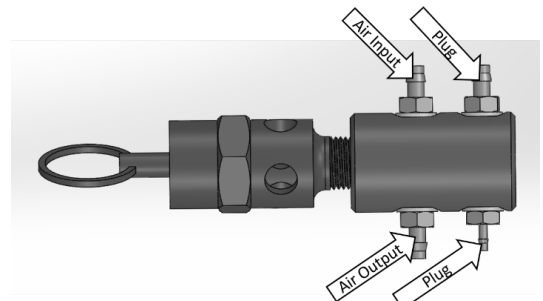

Fig. 3
Step 3 - If the safety relief valve that you removed has only two connections for tubing (Fig. 2), you will need to replace the barbs on the new safety relief valve with plugs and nylon washers (provided); see Fig. 3.